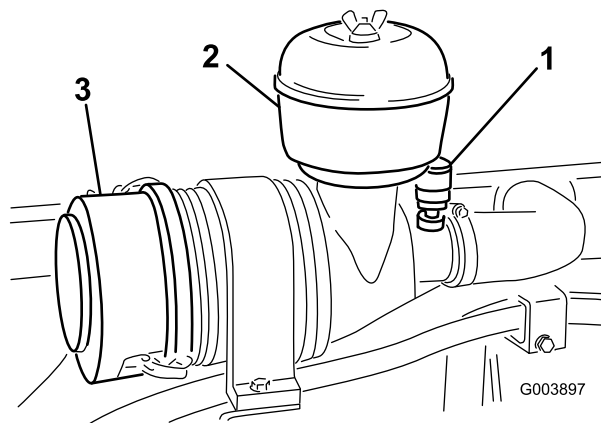

Figure 50
1. Remove the thumb screw and separate the cover from the precleaner bowl (Figure 50).
Only service the air cleaner when the service indicator on the air cleaner housing turns red (Figure 50).
1. Release the latches and remove the cover from the air cleaner body (Figure 50).
9. Reset the indicator (Figure 50) if it is showing red.